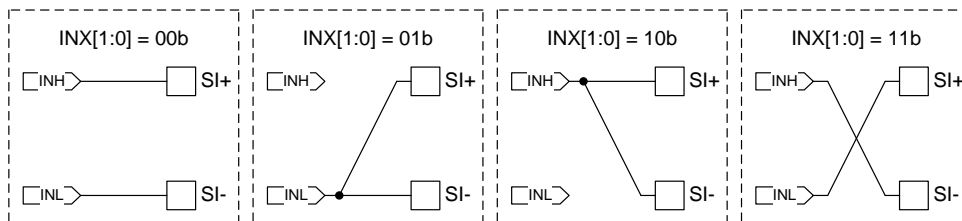

Fig 11-3 Four Types of Combinations of INX Input Signal Converter
- ◆ **SI±** input signal selector INH[2:0], INL[2:0] and **SI±** input signal converter INX[1:0] can send the input signals to **SI+** or **SI-** end via the following paths, such as Fig 11-3 and Table 11-2 (a) :